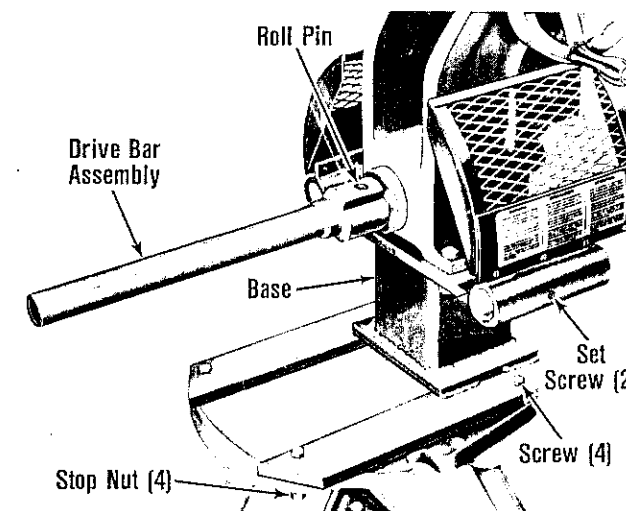

Figure 16. Installing No. 925-1
1. Attach Base to No. 1206 Stand with four Bolts. Torque to 40 Ft.-Lbs. (Fig. 16).